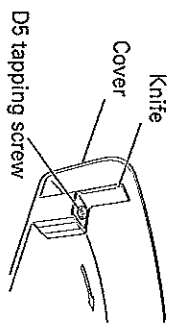

Fig. 8
2. Installing cover (Fig. 8, 9)
- (1) Use the supplied D5 tapping screw to install the knife in the cover. (Fig. 8)